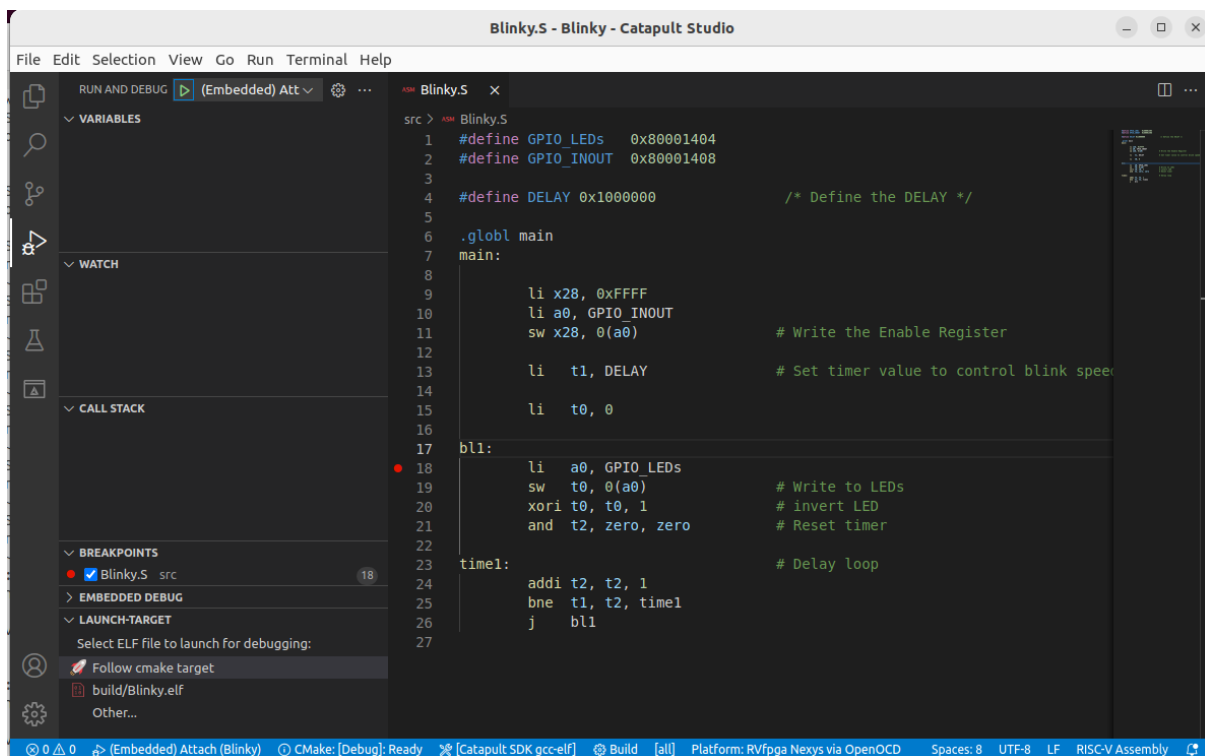

Figure 43. Setting a breakpoint in blinky.S
- Establish a breakpoint by clicking to the left of line number 18. A red dot will appear and the breakpoint will be added to the BREAKPOINTS tab (see Figure 43).